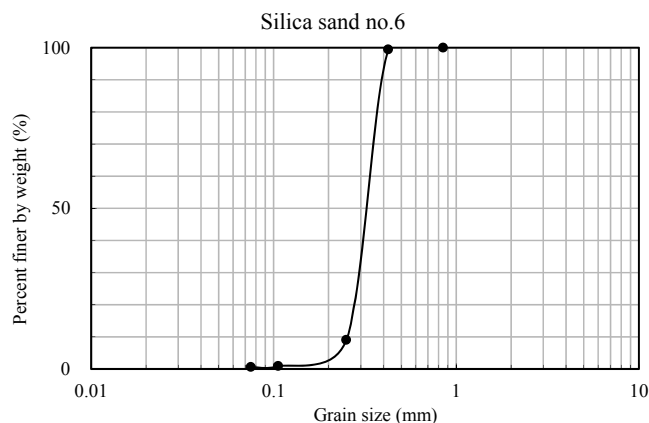

Figure 1 Particle size distribution curve
- (1) Sieve analysis of Silica sand no.6 was conducted. Based on the particle size distribution curve shown in Figure 1, find the average particle diameter D_{50} (the soil diameter at which 50% of the soil weight is finer) and the uniformity coefficient U_c associated with the slope of the grading curve.